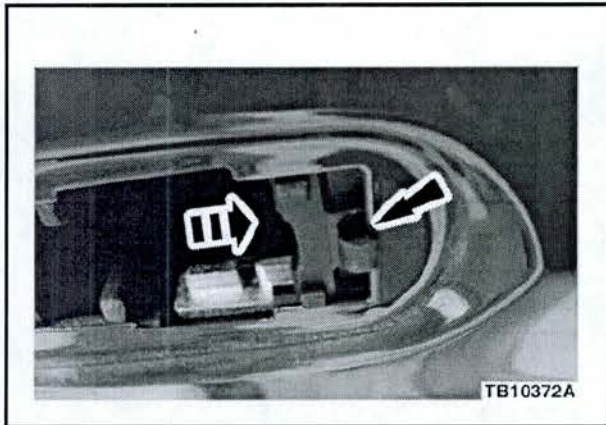

Figure 4 - Article 12-12-12
4. Slide the handle reinforcement rearward so that the plastic tab contacts the edge of the sheet metal. Apply force to hold in place while tightening the front screw to 1.9 N•m (17 lb-in), otherwise, reinforcement will slide forward and repeat concern. (Figure 4)